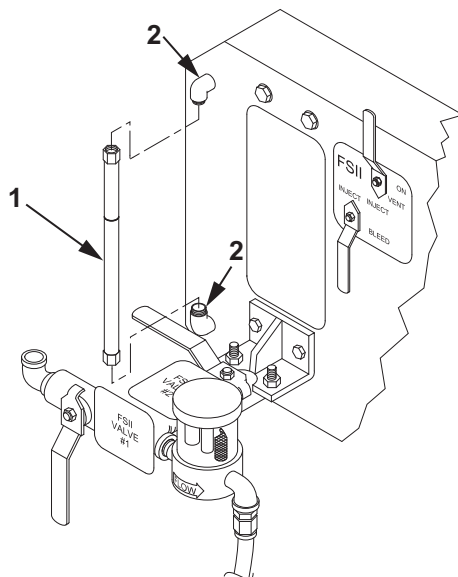

Figure 1. Calibration Gauge Replacement.
1. Place drain pans under calibration gauge (Figure 1, Item 1).
2. Disconnect calibration gauge (Figure 1, Item 1) from upper and lower elbows (Figure 1, Item 2).
3. Remove calibration gauge (Figure 1, Item 1).
4. Discard calibration gauge (Figure 1, Item 1).
5. Remove drain pans from under calibration gauge (Figure 1, Item 1) and dispose of contents per local procedures.
1. Position new calibration gauge (Figure 1, Item 1) between upper and lower elbows (Figure 1, Item 2).
2. Tighten calibration gauge (Figure 1, Item 1) on upper and lower elbows (Figure 1, Item 2).